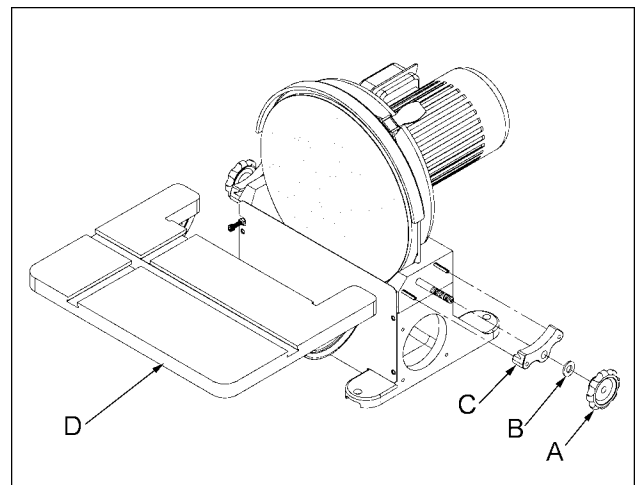

Fig. 2
2. Unscrew the knob (A, Fig. 2), remove the washer (B, Fig. 2) and the trunnion holder (C, Fig. 2). Repeat for opposite side.
3. Lift the table (D, Fig. 2) into position and set on top of the split pins and threaded shaft.